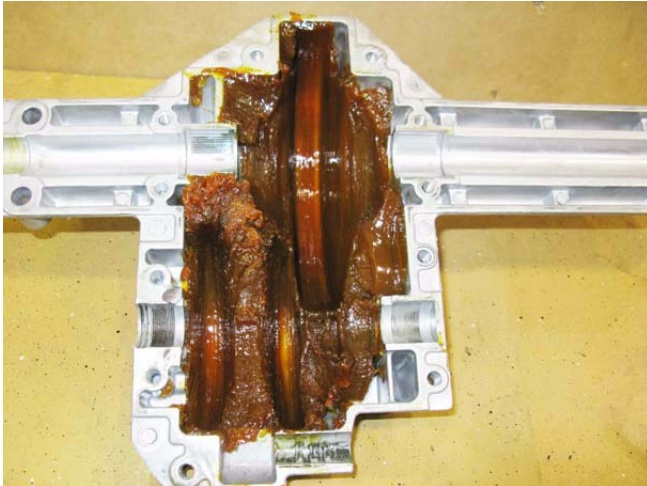

Figure 5.70
- 14e. If the transaxle is repaired, the damage is isolated, and the grease is not contaminated with anything, it is acceptable to re-use the grease. See Figure 5.70.